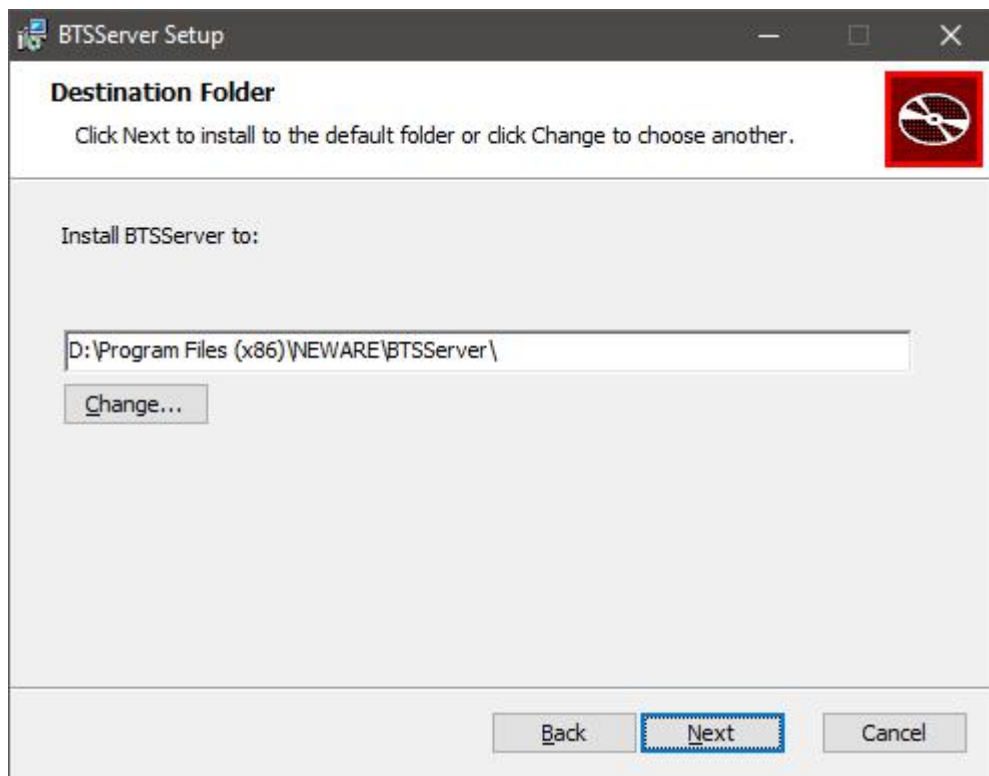

Figure 3.3.3 Installation path window
2. After accepting User License Agreement, choose the server installation path. Default path is "D:\Program Files (x86) \Neware\BTSServer". Click "Modify" to choose other path, then click "Next" to install. (Shown in the figure 3.3.3)